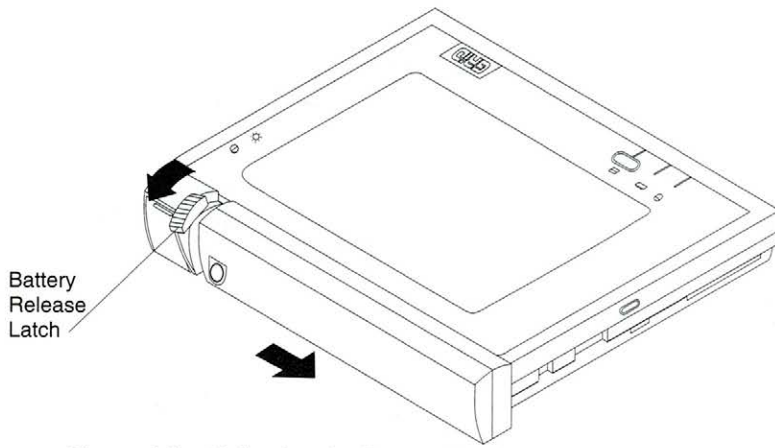

Figure 4-2. Releasing the Battery Latch
2. With the rear panel of the GRiD Convertible computer facing you, pull the battery release latch towards you (Figure 4-2).
3. Slide the battery towards your right, as shown in Figure 4-2.